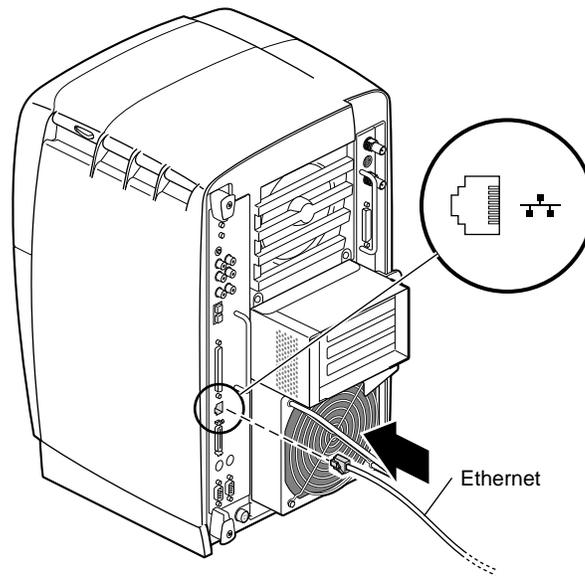

Figure 1-6 Attaching the Ethernet Cable
2. Attach the Ethernet cable to the Ethernet port, as shown in Figure 1-6.